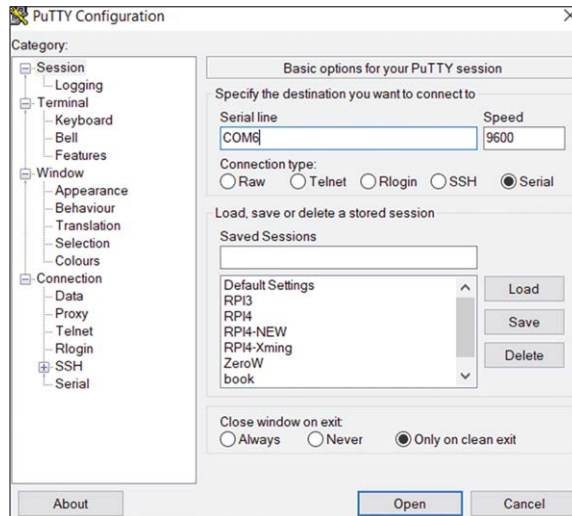

Figure 11.7: Configuring Putty.
- Click **Serial** and set port number, e.g. COM6, set the baud rate to 9600 (Figure 11.7).